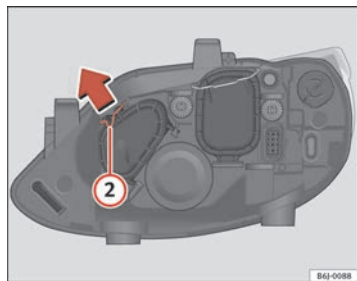

Fig. 135 Main beam headlights
- Move the loop ② in the direction of the arrow and remove the cover ⇒ fig. 135.